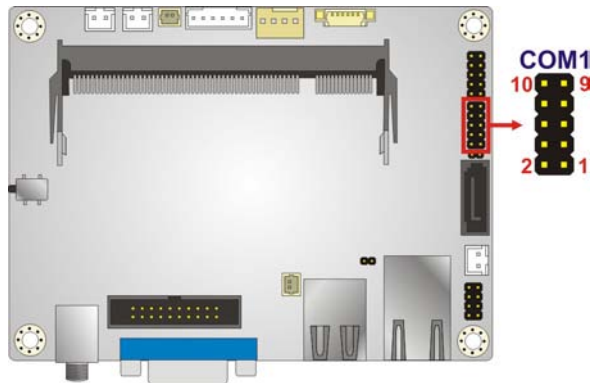

Figure 4-16: RS-232 Serial Port Connector Location
- CN Location: See **Figure 4-16**